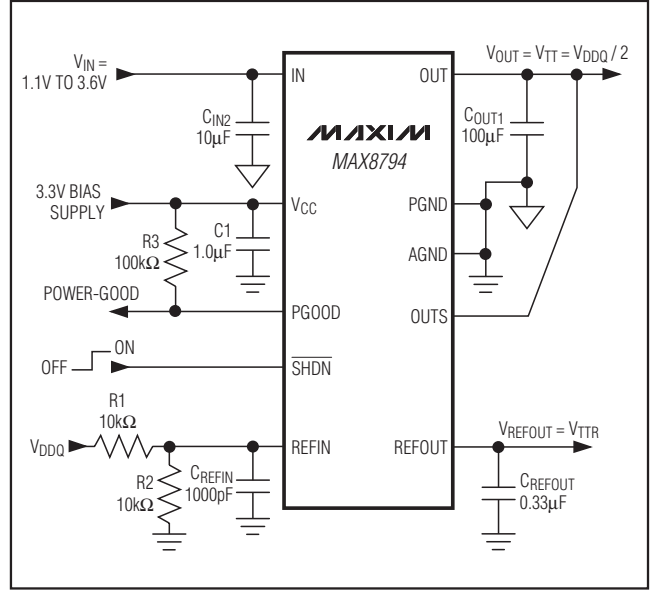

Figure 1. Standard Application Circuit
($V_{IN} = 1.8V$, $V_{CC} = 3.3V$, $V_{REFIN} = V_{OUTS} = 1.25V$, $\overline{SHDN} = V_{CC}$, circuit of Figure 1, $T_A = -40^{\circ}C$ to $+85^{\circ}C$, unless otherwise noted. Typical values are at $T_A = +25^{\circ}C$.) (Note 1)
(Circuit of Figure 1. $T_A = +25^\circ\text{C}$, unless otherwise noted.)
The MAX8794 is a low-voltage, low-dropout DDR termination linear regulator with an external bias supply input and a buffered reference output (see Figures 1 and 2). V_{CC} is powered by a 2.7V to 3.6V supply that is commonly available in laptop and desktop computers. The 3.3V bias supply drives the gate of the internal pass transistor, while a lower voltage input at the drain of the transistor (IN) is regulated to provide V_{OUT} . By using separate bias and power inputs, the MAX8794 can drive an n-channel high-side MOSFET and use a lower input voltage to provide better efficiency.
The MAX8794 regulates OUTS to the voltage set at REFIN, making the MAX8794 ideal for memory applications where the termination supply must track the supply voltage. Typically, REFIN is set by an external resistive voltage-divider connected to the memory supply (V_{DDQ}) as shown in Figure 1.